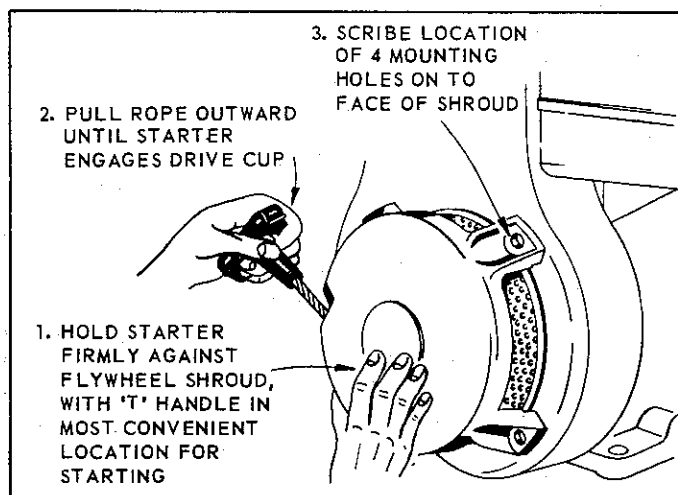

FIG. 3
1. With reference to Fig. 3, place starter over drive cup and hold unit firmly against the shroud, with the 'T' starting handle located in the most convenient position.